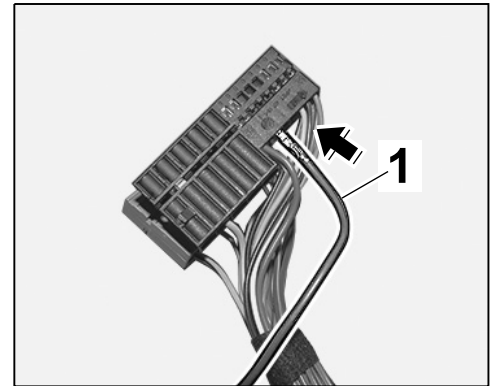

Figure 14
- 2.4.2 Insert socket contact $\Rightarrow$ *Figure 14 -1-* into chamber A37 of the black plug socket.